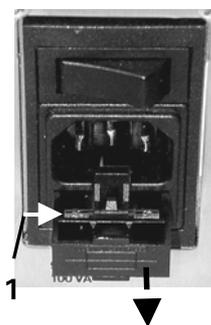

FIGURE 3-28 Fuse Compartment
- a) Pull out the fuse holder (item 1, FIGURE 3-28).